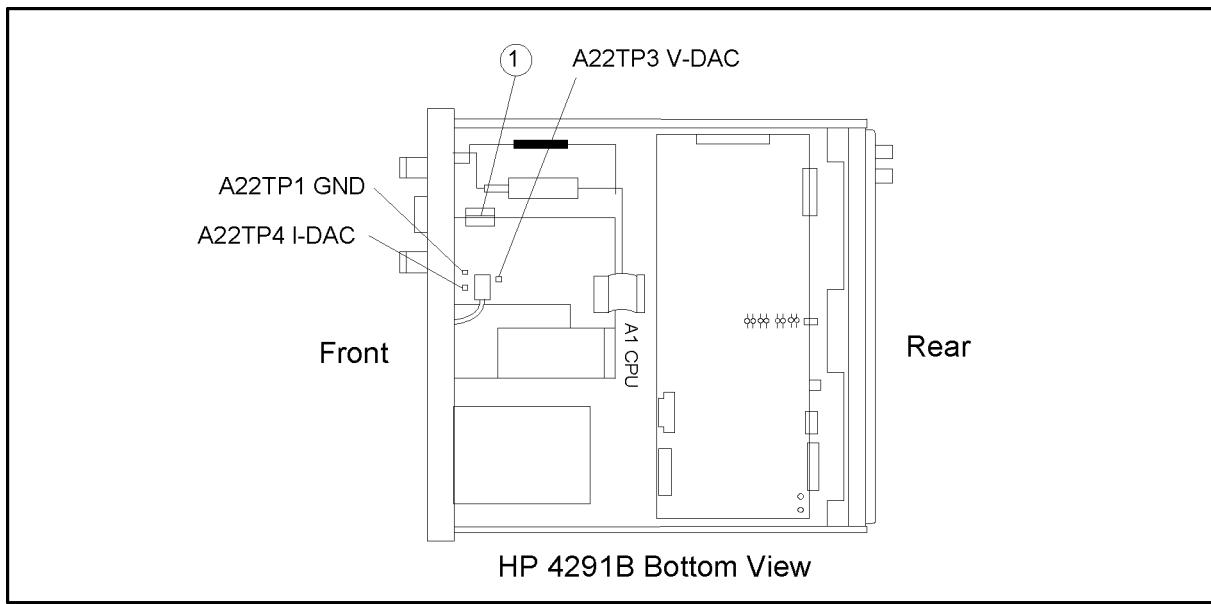

Figure 7-25. A22 Output Voltages Check Location
- Turn the 4291B off, and remove the flat cable designated ① in Figure 7-25.
- Change the DC bias voltage settings and check that the A22TP3 (V-DAC) voltage from A22TP1(GND) is within the limits shown in Table 7-4. See Figure 7-25 for the test point locations.
e. Change the DC bias current settings and check that the A22TP4 (I-DAC) voltage from A22TP1(GND) is within the limits shown in Table 7-5. See Figure 7-25 for the test pin location.
h. Measure the A22TP3 voltage from A22TP1, and note the measured value. See Figure 7-25 for the test pin location.